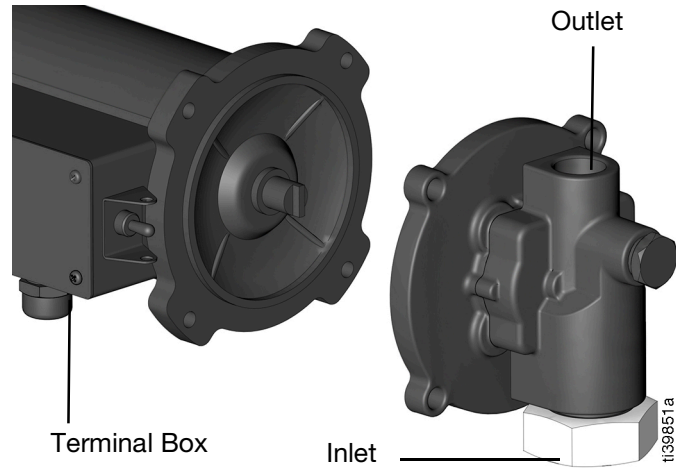

**FIG. 38**
3. Position the adapter plate on the pump housing so that the notches point toward the pump inlet (FIG. 37 and FIG. 38).